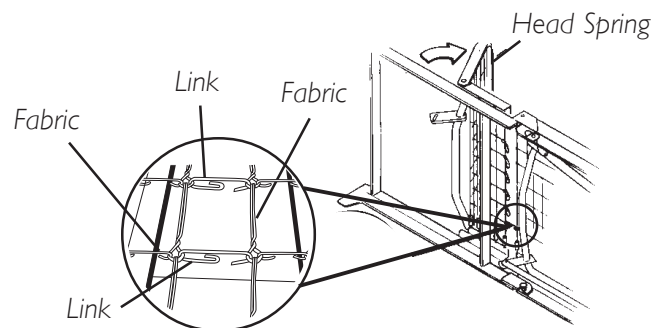

FIGURE 3 - CONNECTING THE SPRING FABRIC
CONNECTING THE SPRING FABRIC (FIGURE 3)
2. Connect the spring fabric together with the links provided. Refer to FIGURE 3.